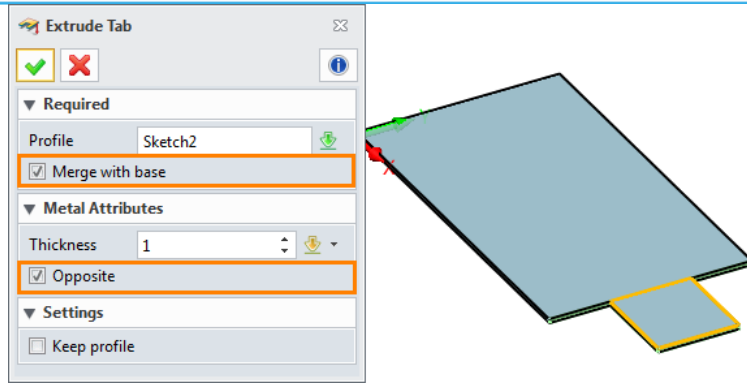

Figure 7 Merge Extruded Base
STEP 02 Repeat the **Extrude Tab** command to merge a new tab into the base as shown in Figure 7.